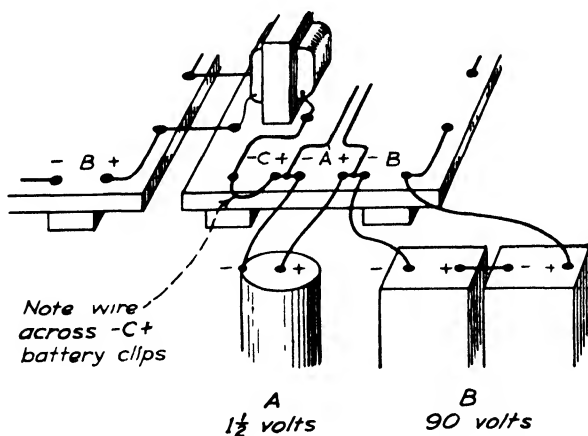

FIG. 224. Step 3, connect a wire across the C-plus and the C-minus connections on the amplifier board.
Step 3. Connect a wire between the two C terminals on the amplifier board (see Fig. 224). Connect earphones to the amplifier-output terminals.